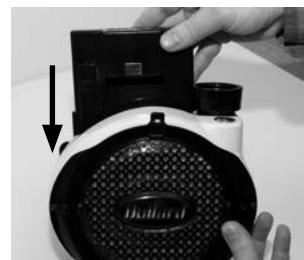

Figure 4
- The battery tab should click when completely engaged. (See Figure 4)